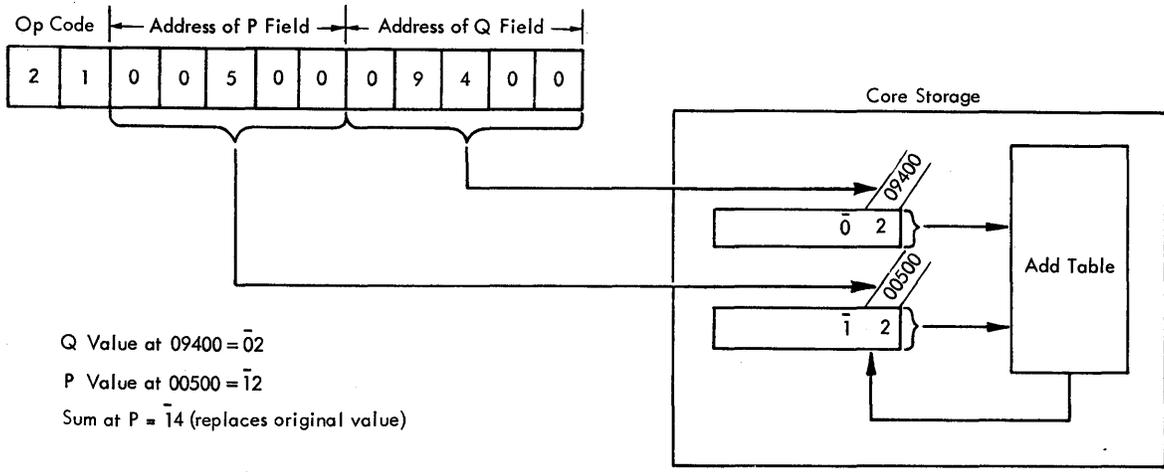

Figure 12. Add Instructions - Data Flow
In Figure 12, the sum (14) is "looked up" in the Add table and replaces the 12 at 00500 (P address). The field mark remains at the high-order position. When the sum is zero, the sign of the P field is re-
*Description.* The description is the same as that for Add (A-21) except that the data in the Q part of the instruction is used as the Q data. For example, if the Op code were 11 in Figure 12, the Q data would be  $\bar{0}9400$  and the result would be 12 ( $00 + \bar{1}2$ ). The three high-order positions of the Q data ( $\bar{0}94$ ) are not used because the P-data flag bit (above the one in 12) stops the add operation. The Arithmetic Check indicator is turned on because the Q data field ( $\bar{0}9400$ ) exceed the two digits of data ( $\bar{1}2$ ) contained in the field defined by the P address (00500).